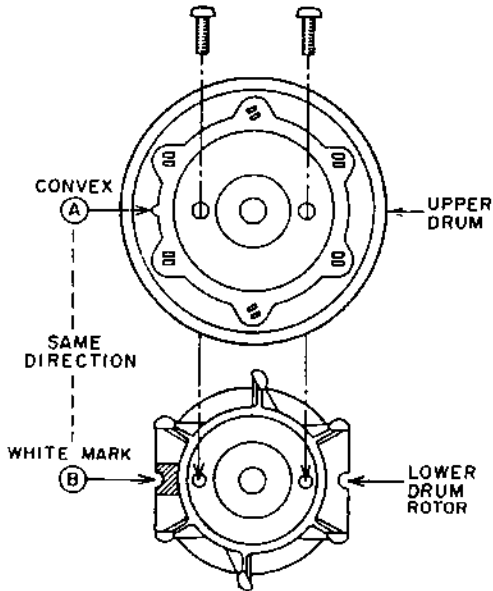

Fig. 4-20
Attach the UPPER DRUM to the LOWER DRUM MOTOR so that upper drum convex (A) and lower drum motor's white mark are in the same direction as shown in Fig. 4-20.